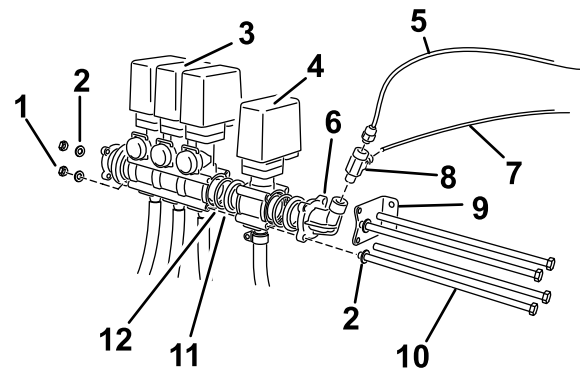

Figure 5
4. Locate the hose reel valve assembly in loose parts and install in line with the existing valves (Figure 5).
6. Reposition the bracket to the end valve assembly at the two holes on the elbow adapter closest to the boom valve mount bracket (Figure 5).
7. Insert two long bolts (M8 X 260 mm) through the mount bracket, at the top and bottom holes in the valve bodies of the hose reel and the boom bypass valves closest to the mounting rail (Figure 5).
9. Use the remaining two bolts (M8 X 260 mm) with existing washers to secure the valve assemblies at the open holes in the valve bodies (Figure 5)
13. Install the tee fitting (Figure 5)